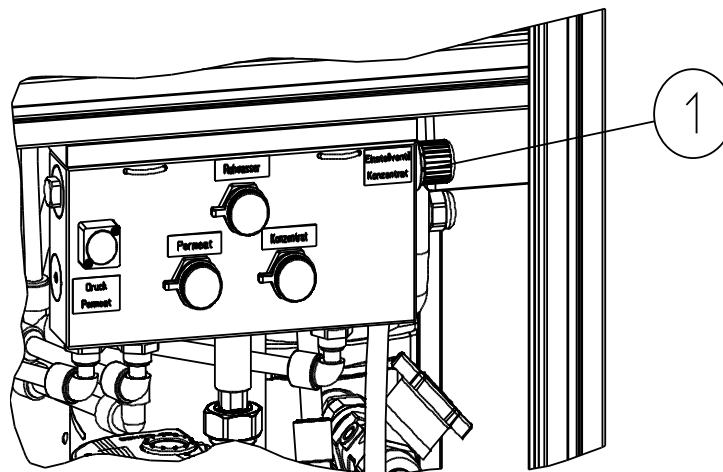

Fig. F-4: Needle valve, concentrate
Set the concentrate flow at the concentrate needle valve (refer to fig. F-4, item 1).